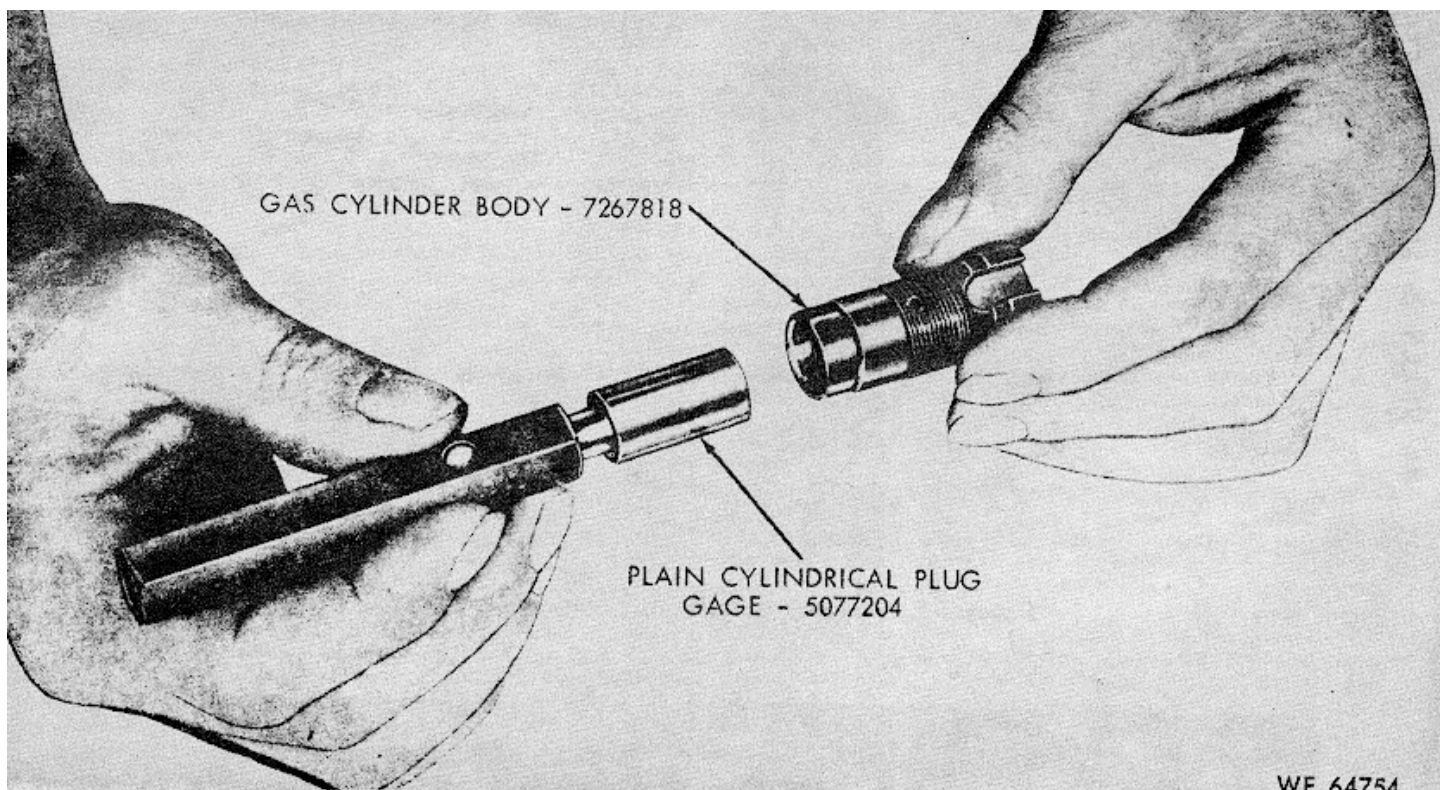

Figure 3-3. Gaging gas cylinder body.
a. Check inside diameter of gas cylinder body (fig 3-3).